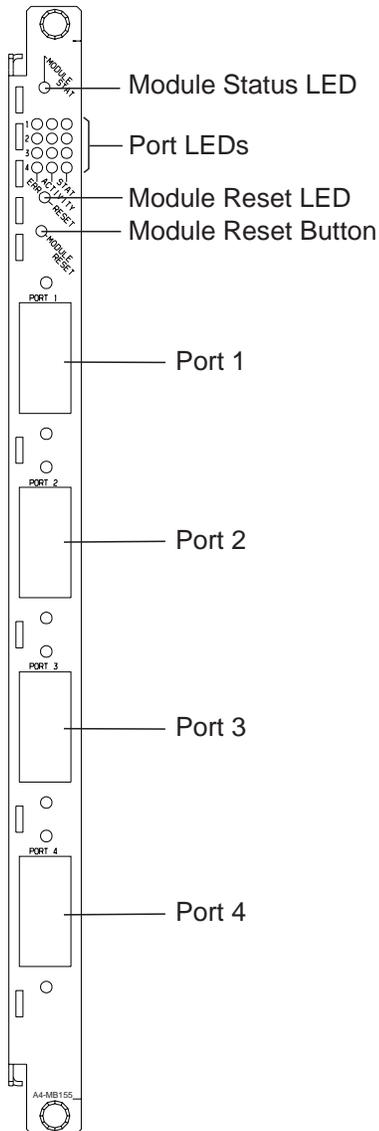

Figure 4. 155 Mbps Module Front Panel
Refer to Figure 4 when installing and configuring a 155 Mbps module.
- The port and module LEDs on the module faceplate (see Figure 4 on page 20)